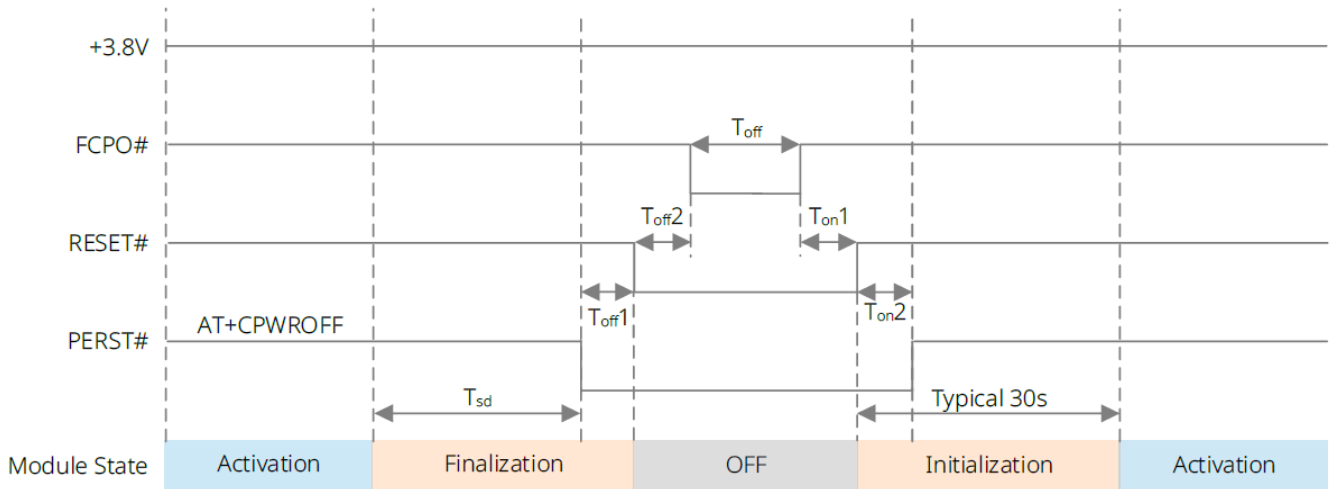

Figure 3-9 Reset timing 2nd
- Reset timing 2nd in Figure 3-9.